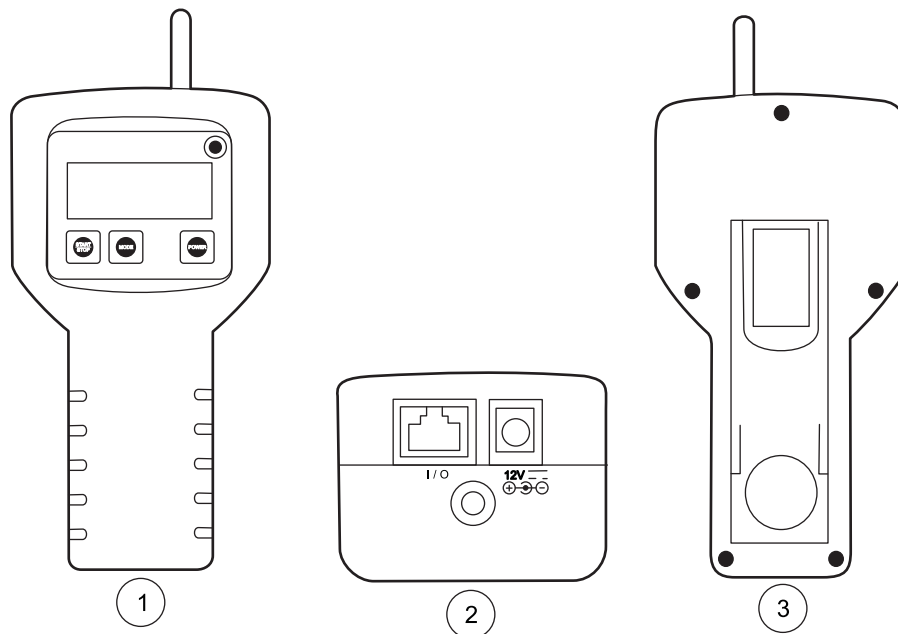

Figure 2 MET ONE HHPC–2
The MET ONE Handheld Airborne Particle Counter–2 (HHPC–2) (refer to Figure 2) is a portable instrument that measures, counts, stores and reports airborne particulates. The standard MET ONE HHPC–2 holds 100 samples in the memory. The data records include date, time, counts, sample labels, volume, alarm flags, temperature and relative humidity. The user can download the data to a personal computer (PC) using the included interface cable and software. The internal battery powers up the MET ONE HHPC–2 when mobile or when connected to the AC power adapter.